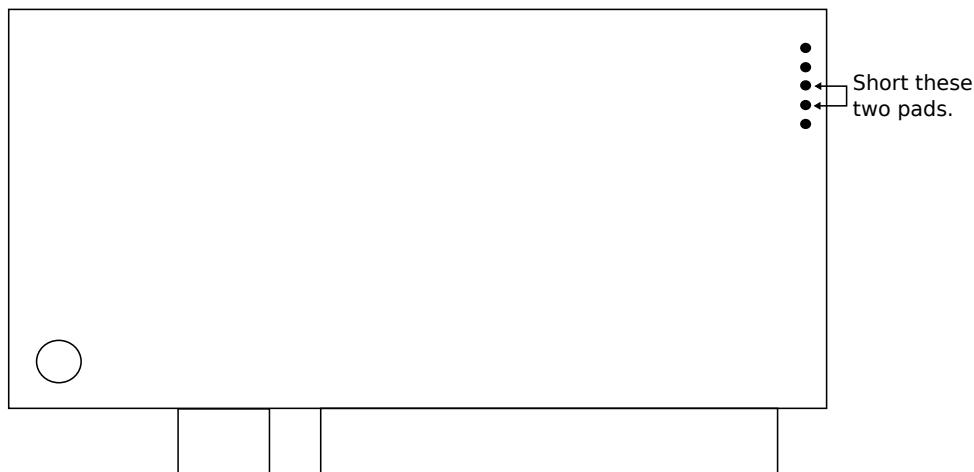

Figure 2: Reset to factory default settings
2. Short CLK and DIO pads of programming pads on bottom of PCB (see figure 2).